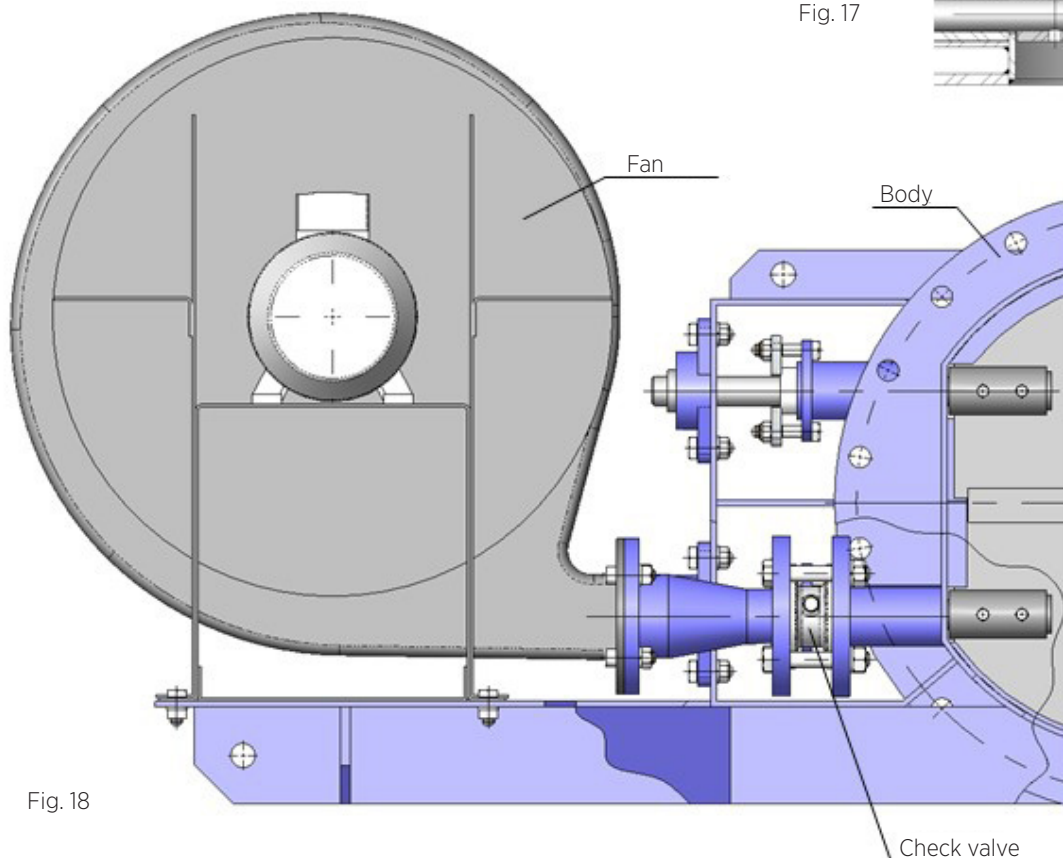

Fig. 18
- This type of valve requires double the number of louvres of a conventional valve. These rims close against the rim system in the body and the louvres. In order to inject air in the seal, a fan system with a check valve is attached (fig. 18), meaning the conduit gases cannot leave through the fan pipe when the multilouvre damper butterfly is open. We therefore calculate that this type of seal achieves watertight integrity of 100%.